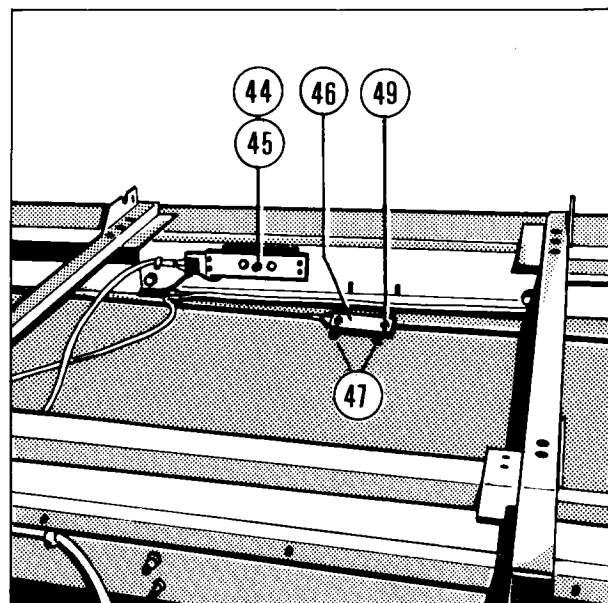
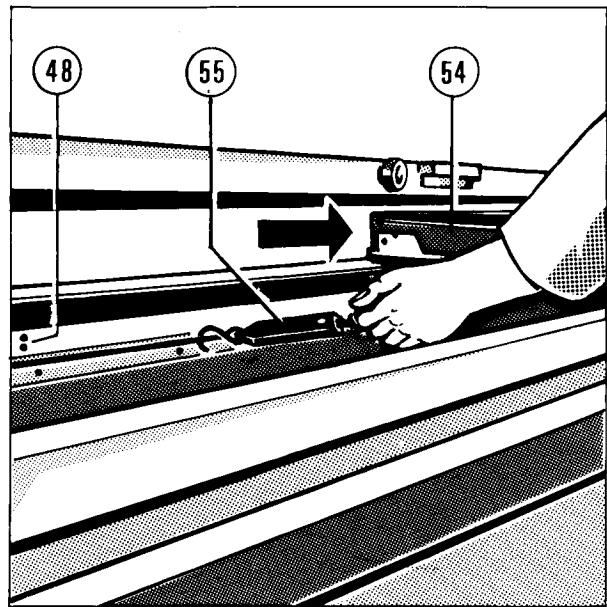

Fig. 21
Fig. 23
- Check performance of brake. Adjust, if necessary, by loosening lock nut (Fig. 21/item 44 and tighten set screw (item 45) and lock nut again.
- Remove the wire rope connector (Fig. 21/item 46) in downward direction after loosen the screw (Fig. 21/ item 49).
- Reinsert counterweight and install return pulley with pedestal. Establish wire rope connection (Fig.21/item 46) and tighten clamping stud thru hole (Fig. 23/item 48).
- Check the wire rope for proper tension. Therefore move the Bucky carriage (Fig. 23/item 54) all the way to the foot end position. Hook up spring scale (Fig. 23/item 55) in the middle of the visible length of the wire rope. Max deflection of 8 cm when applying a force of 3 kg to the spring scale.
- Readjust if necessary. Therefore loosen screws and unhook the wire rope connector (Fig.21/item 46). Adjust the wire rope tension by opening the clamping stud (Fig./21 item 49) and pull thru the rope as necessary. Tighten clmping stud and remount rope connector.